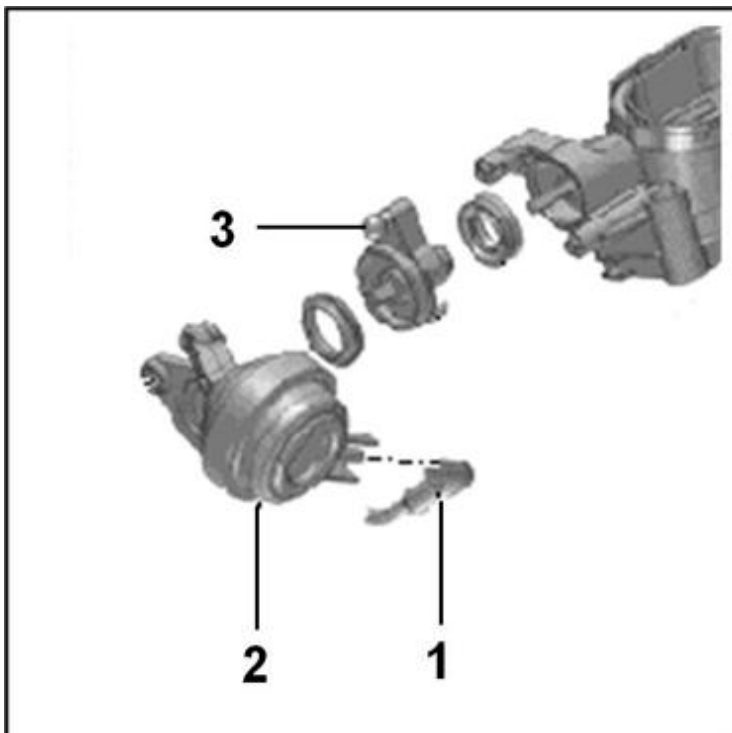

Figure 11. Vacuum hose (1), vacuum actuator (2), and ball head (3)
11. Pry the vacuum actuator (Figure 11, 2) off of the ball head (Figure 11, 3), then disconnect the vacuum hose (Figure 11, 1).